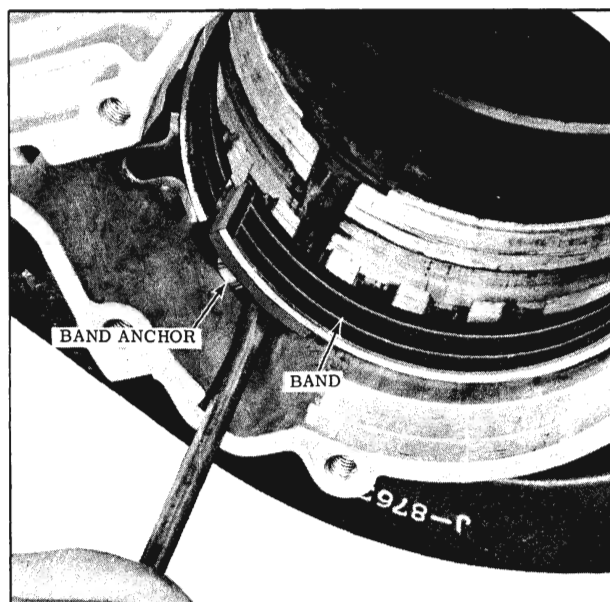

Fig. 3-48 Removing Overrun Band
18. Unhook the band from the anchor and lift upwards to remove. (Fig. 3-48)